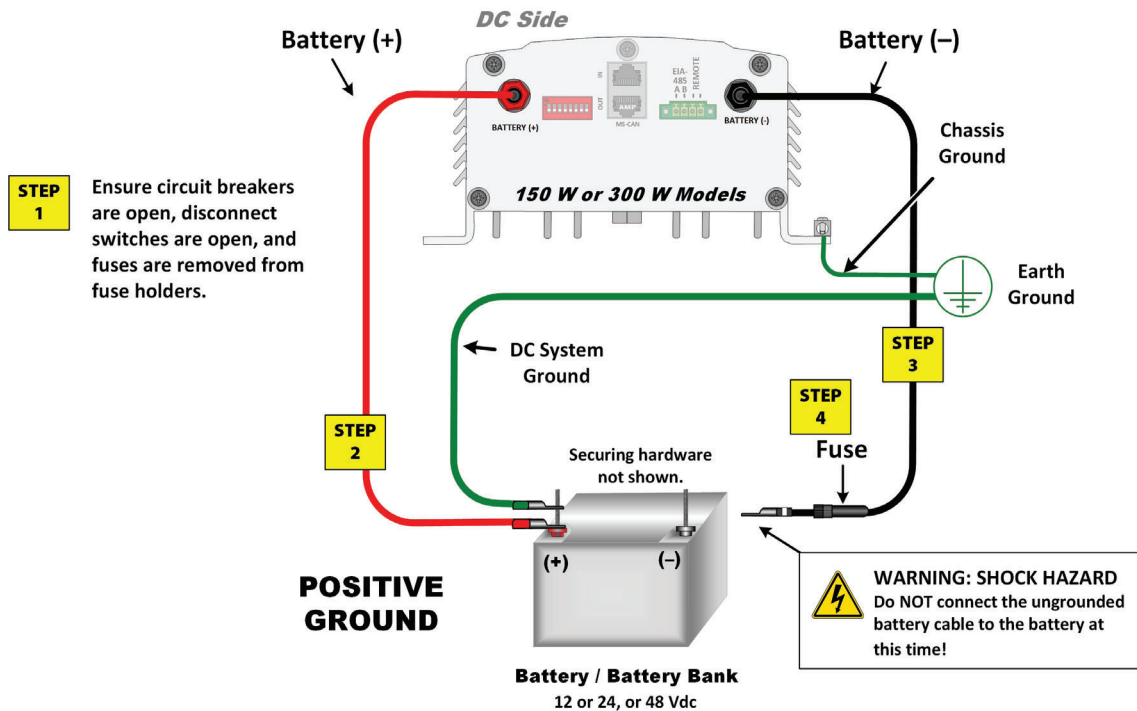

Figure 18: DC Connections on 150 W & 300 W Models with Positive Grounding
- **For 150 W & 300 W Models:** See Figure 18 on page 25